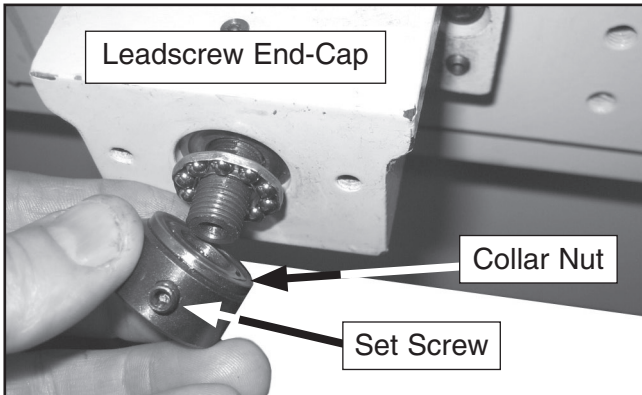

Figure 3. Lead screw end-cap.
3. Using a 6mm hex wrench, remove the two lead screw end-cap cap screws. Using a 3mm hex wrench, loosen the set screw (Figure 3) and unthread the collar nut from the end of the lead screw.